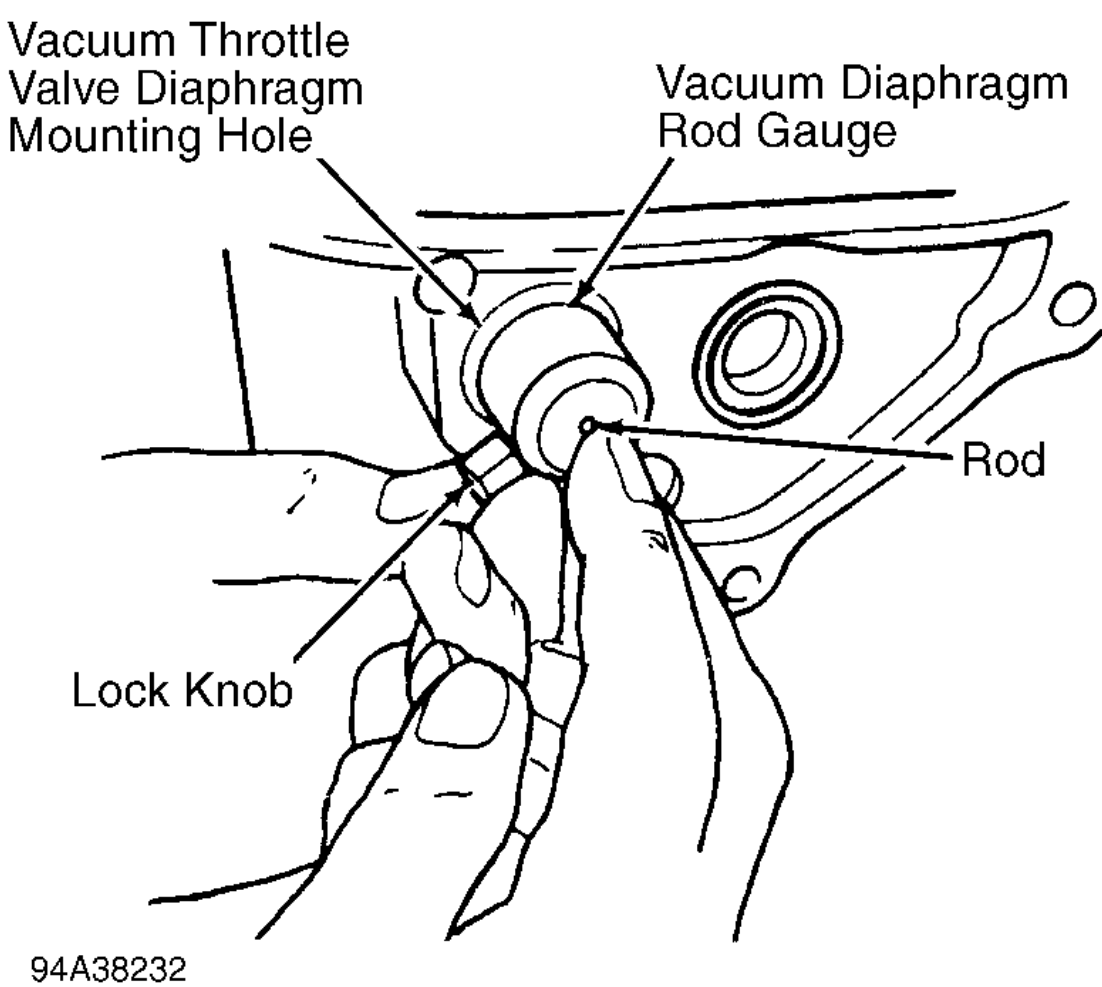

Fig. 3: Identifying Vacuum Diaphragm Rod Gauge
- 2. Place gauge rod through opening of gauge until rod bottoms out against vacuum throttle valve. Tighten lock knob on gauge and remove tool. Using depth gauge, measure distance from flat surface of gauge to end of rod. See **Fig. 3** . Select proper length throttle valve rod. See **THROTTLE VALVE ROD DIMENSION CHART** .